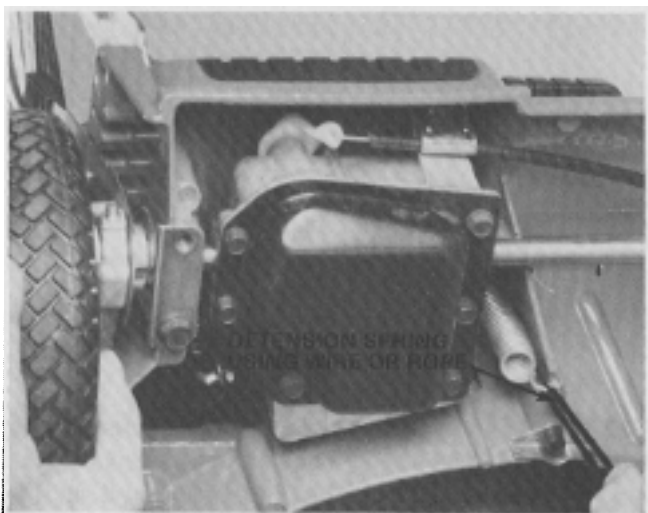

Figure 72
3. Tip the mower on its right side and detension the spring using a piece of thin rope or insulated electrical wire. See Figure 72.
8. Tip the mower on its side and pull the bottom of the spring into position using a thin rope or insulated electrical wire. See Figure 72.